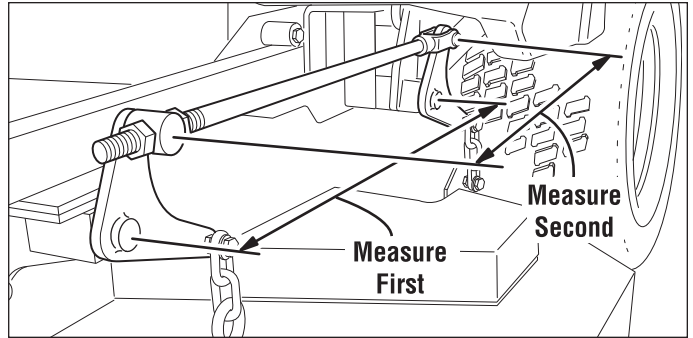

Figure 16. Check Lift Rod Timing
2. To check the lift rod timing, measure and record the distance between the lift pivots and the rod pivots. Repeat for other side of unit. See Figure 16.